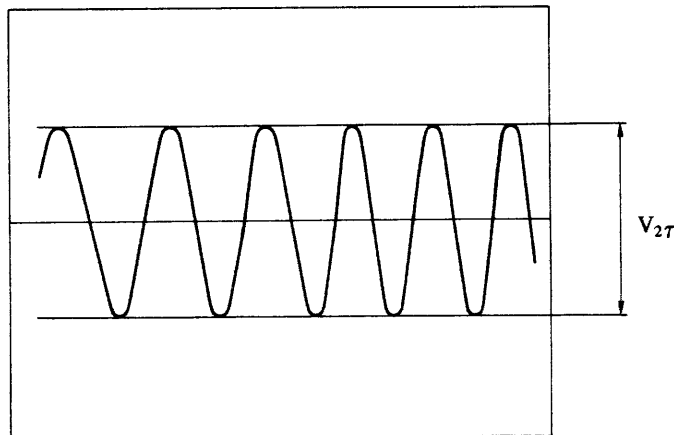

Figure 6.8 Read output measurement
- ⑤ Connect the test point TRM1-13 to a frequency counter.
- ⑥ Adjust the potentiometer RV3 so that the frequency of TRM1-13 signal is $36.0 \text{ MHz} \pm 100 \text{ kHz}$.
- ① Turn the power off.
- ② Set S9 to the off position. (2 to 3: off)
- ③ Clamp TRM4-2 to 0 V firmly.
- ④ Turn the power on, and wait 5 minutes.
- ⑤ Connect the test point TRM4-14 (CNTV) to an oscilloscope (DC coupled).
- ⑥ Adjust potentiometer RV2 so that TRM4-14 (CNTV) signal is $0\text{ V} \pm 0.1\text{ V}$.
- ⑦ Connect test point TRM4-13 (BYTCL) to a frequency counter.
- ⑧ Select the proper capacitance as shown in Figure 6.8 so that the frequency of TRM4-13 is closest to 1.50 MHz as possible.
- ⑨ Finally adjust the potentiometer RV2 so that the frequency of TRM4-13 is $1.50\text{ MHz} \pm 2\%$.